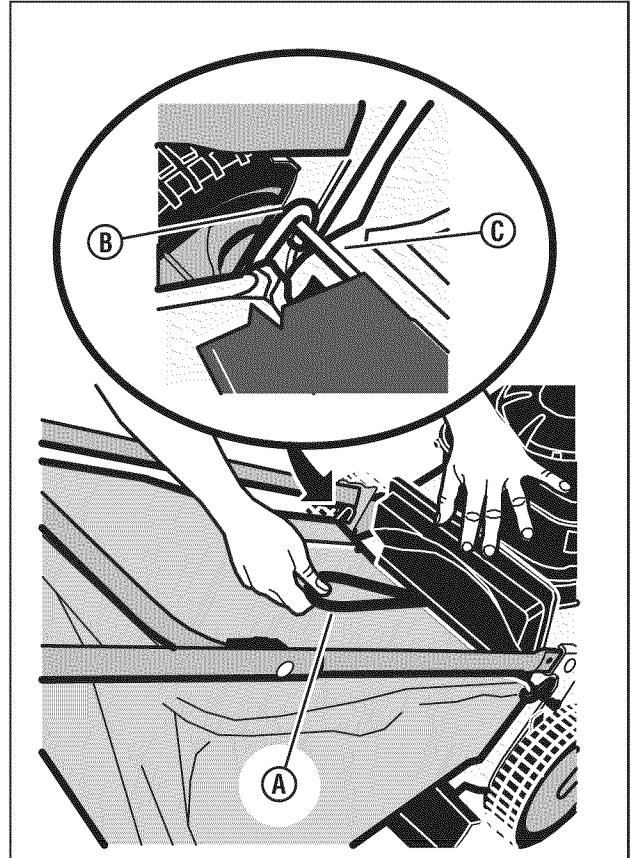

Figure 13: Installing the grass bag
3. Holding the grass bag handle (A, Figure 13), install the grass bag onto the mower, making sure that the grass bag hooks (B) are hooked onto the rear door pivot rod (C).